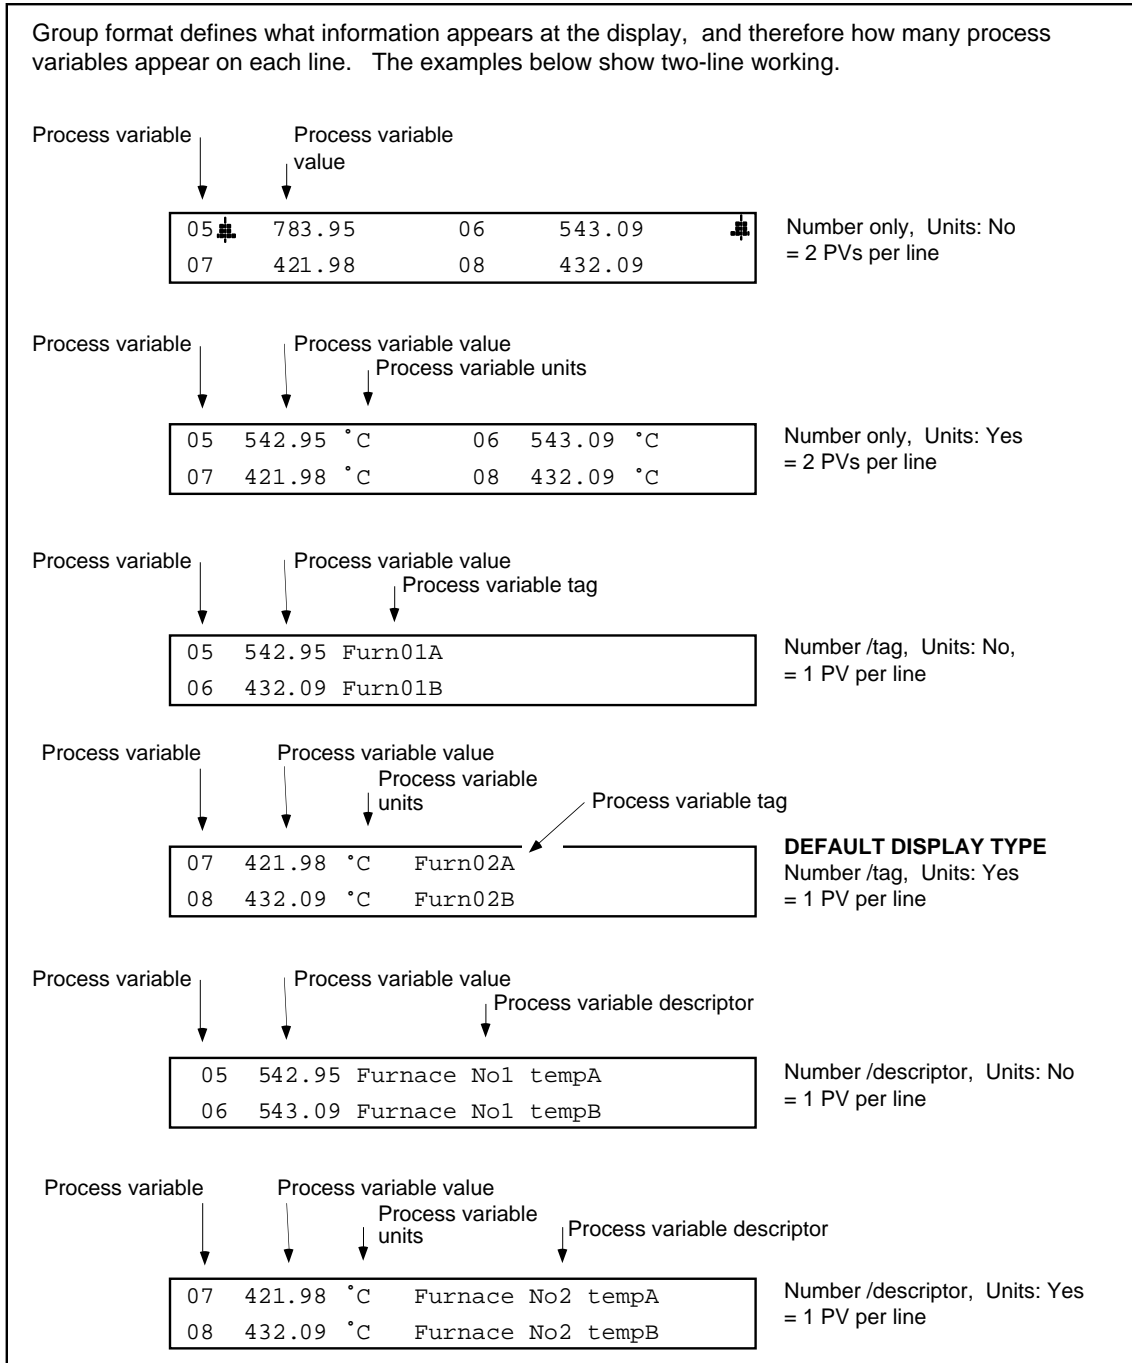

Figure 3.2.1a Numeric indication modes
- MODE** Operation of this key calls the 'Display mode / Group Select' page to the display. See figures 3.2.1a/b/c for an illustration of the different display modes available.
- Numeric** Up to two PVs can be displayed as digital values on each display line, depending on the format selected for the group. This group format (section 4.5) defines whether any units, tags or descriptors appear alongside the value, and thus how many values can appear on each line (figure 3.2.1a).